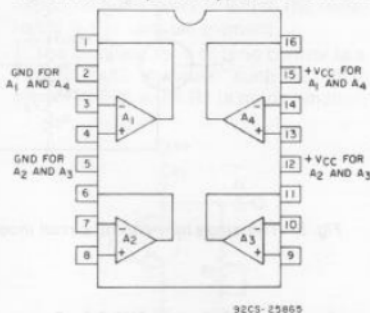

Fig. 8—Block diagram of CA3048 and CA3052 integrated-circuit amplifier arrays.
The CA3048 and CA3052 integrated circuit amplifier arrays, shown in Figs. 8 and 9 are special-function sub-systems designed specifically for stereo preamplifier service. They can operate as equalizer amplifiers in tape recorders, magnetic-cartridge phonograph applications, and tone-control amplifiers, and, in addition, can provide all of the amplification necessary for a full-function stereo amplifier. The CA3052 is schematically identical to the CA3048, but each amplifier in the CA3048 is tightly specified for equivalent output noise under a variety of test methods.
**Circuit Description.** Figs. 8 and 9 show a block diagram and a detailed schematic respectively, of the CA3048